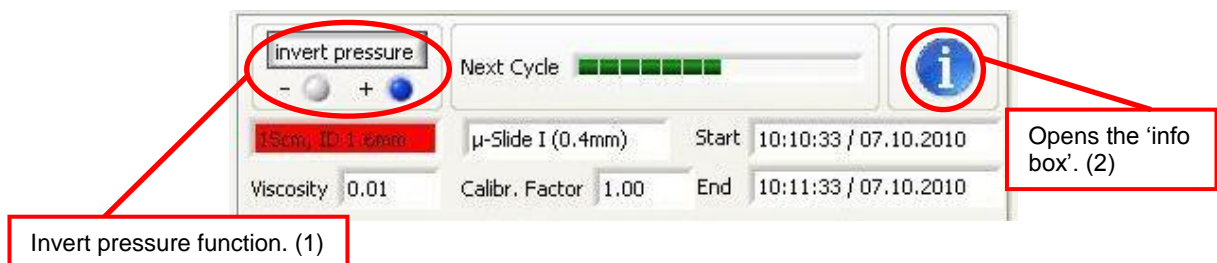

Figure 25: Overview and Information
- When you press the 'Save' button, after Steps 1-4, the new cycle list will be transferred to the main PumpControl menu. You can view the cycle list in the Cycle Overview table (see Figure 23) or by selecting the information box, as shown in section 4.2 (control 2 in Figure 25).
At the bottom of the ‘Automatic Control’ panel, in **Fehler! Verweisquelle konnte nicht gefunden werden.**, you’ll find the overview and information sections like indicated in Figure 25.
In the middle of Figure 25, you’ll find the horizontal progress bar, indicating the start of the next cycle. On the lower right-hand side, the experiment start and finishing times are shown. Next to this, the ‘Fluidic Unit Setup’ is displayed and shows the selected μ -Slide, the Perfusion Set, the viscosity, and the calibration factor.
In this panel, you’ll also find two functional buttons: ‘invert pressure’ and ‘i’nformation. With the ‘invert pressure’ button (control 1 in Figure 25), you can invert the airflow by switching between the positive and negative air pressure. Activating the ‘i’nformation button (control 2 in Figure 25), allows you to reach an overview table that lists the cycles you’ve created. In that menu, the active cycle is highlighted. More details can be found in section 4.2.